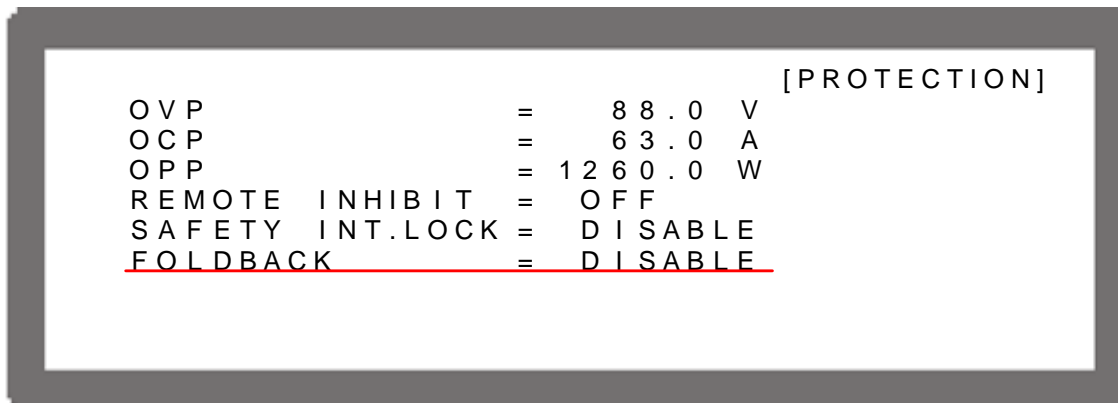

Figure 3-80
1. Use the “**←↑**”, “**→↓**” keys to move the cursor to the column to be set as Figure 3-80 shows.